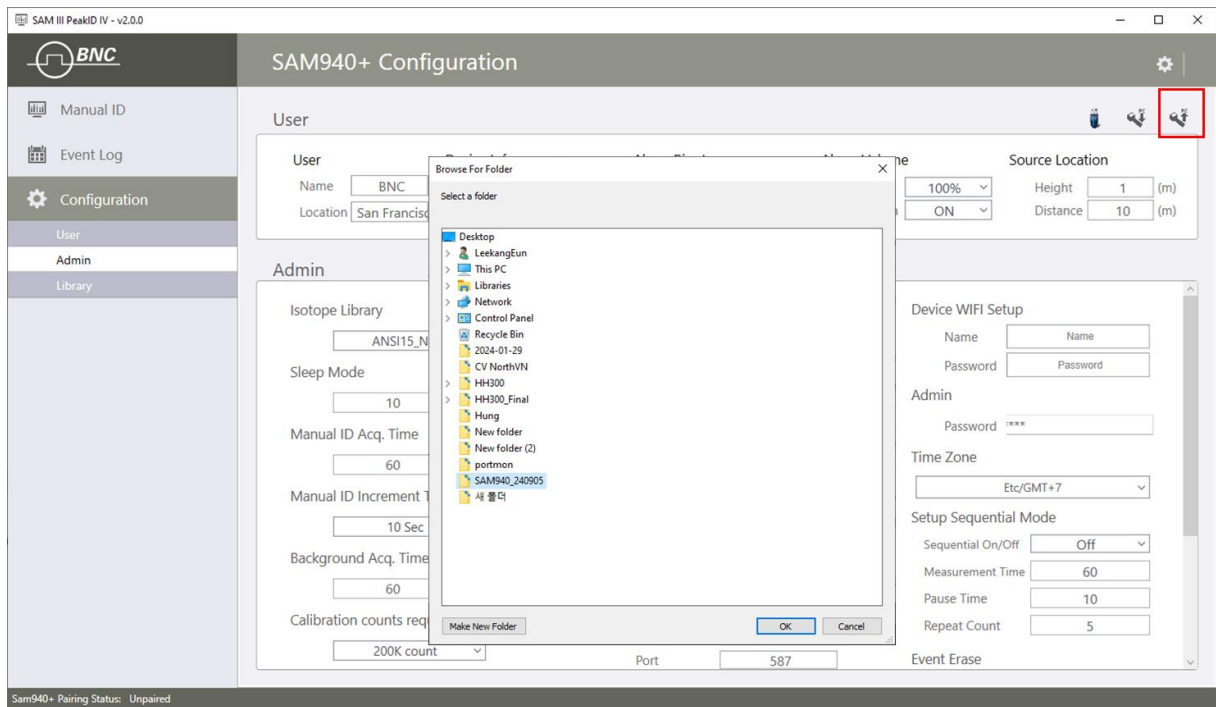
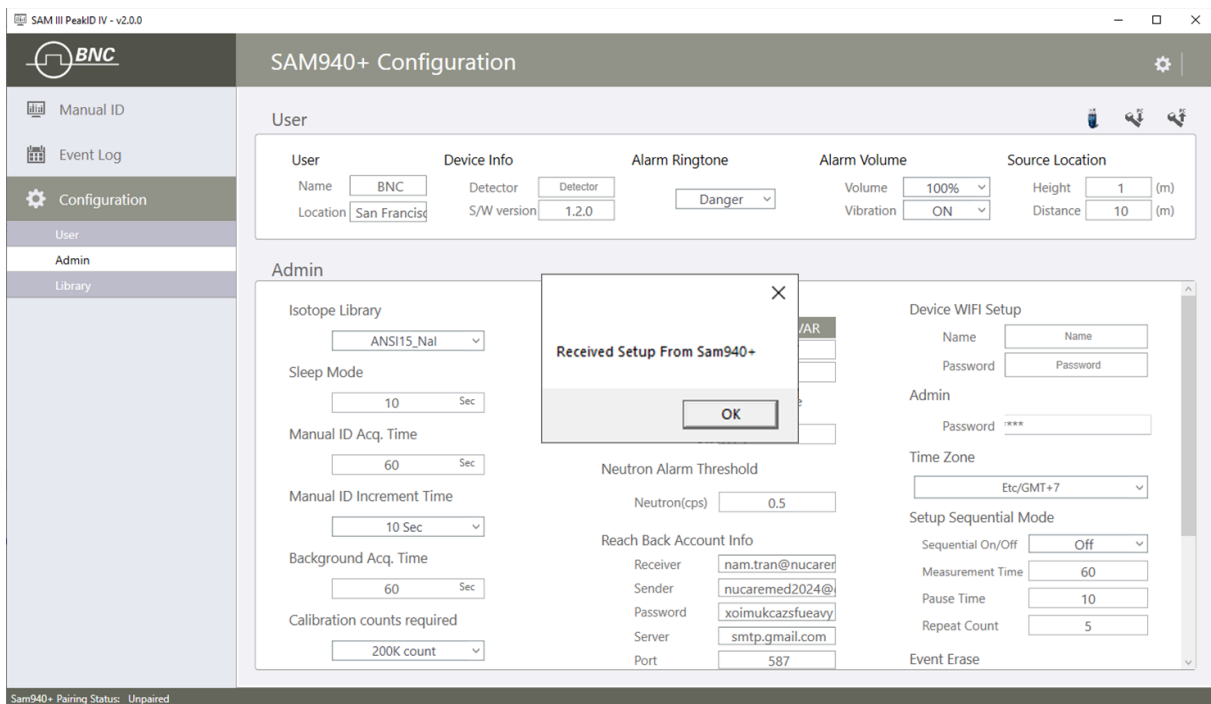

Figure 7.9.5. Select the desired folder to store the configuration file
Figure 7.9.6. Download configuration from the SAM 940+.
2. Select the desired folder to store the configuration file. The file from the device will be copied to this folder shown in Figure 7.9.5. Download confirm message window is popped up as shown in figure 7.9.6.